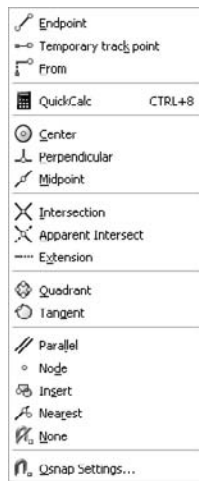

Figure 3.23
- To add options, drag and drop them from the Command List: pane. Note the addition of the QuickCalc command in Figure 3.23.